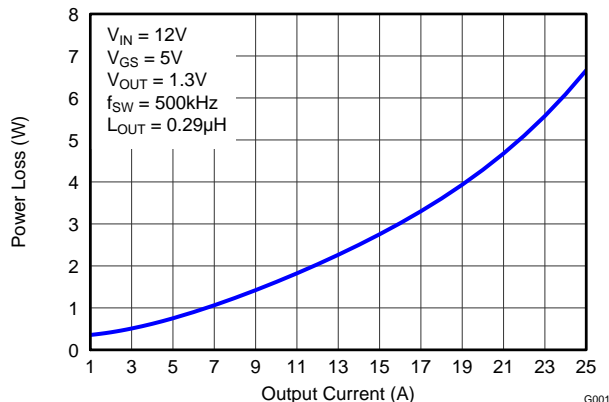
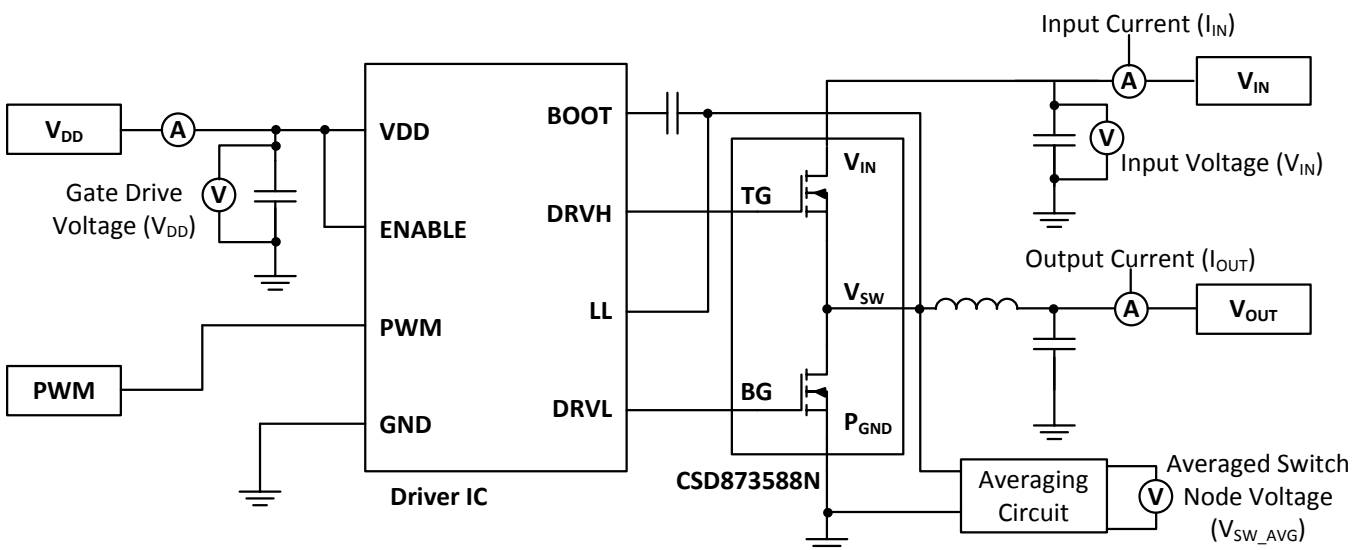

Figure 1. Power Loss vs Output Current
Figure 27. Typical Application
MOSFET centric parameters such as $R_{DS(ON)}$ and Q_{gd} are needed to estimate the loss generated by the devices. To simplify the design process for engineers, TI has provided measured power loss performance curves. Figure 1 plots the power loss of the CSD87588N as a function of load current. This curve is measured by configuring and running the CSD87588N as it would be in the final application (see Figure 27). The measured power loss is the CSD87588N loss and consists of both input conversion loss and gate drive loss. Equation 1 is used to generate the power loss curve.
The power loss curve in Figure 1 is measured at the maximum recommended junction temperatures of 125°C under isothermal test conditions.
- Power Loss at 15 A = 2.75 W (Figure 1)